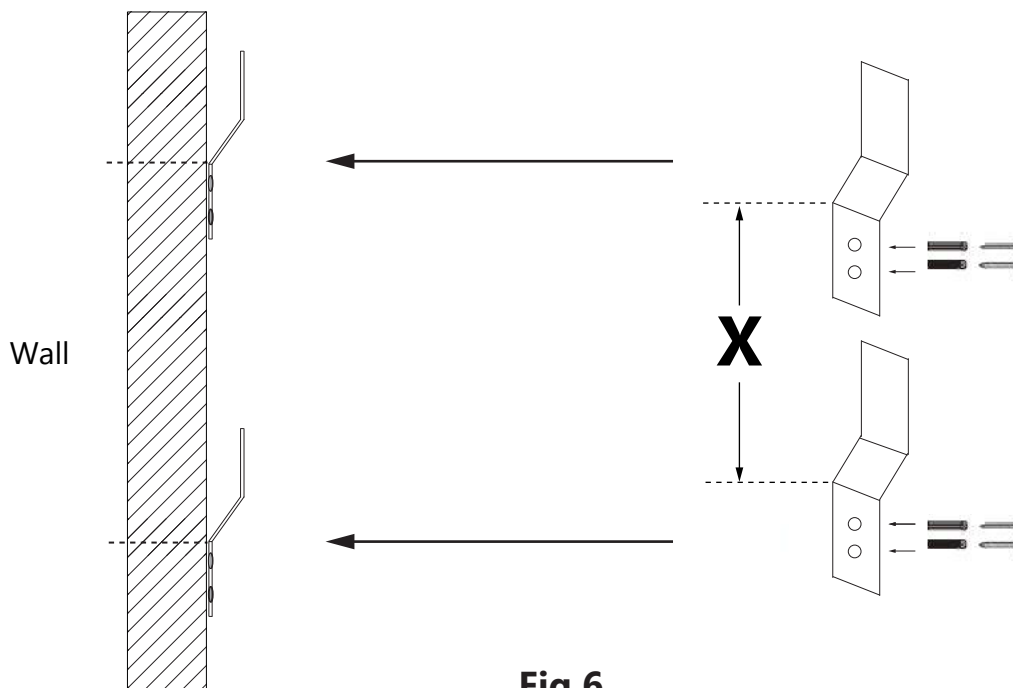

Fig 6
6. Place the **Support Brackets (#02)** just below the lines you just made on the wall, with the bend of the brackets lying on the marks as shown. Mark the screw holes. Drill the holes using a **Ø 5/16"** drill bit. Insert the wall anchors and use the included screws to attach the **Support Brackets (#02)** to the wall. (**Fig 6**)